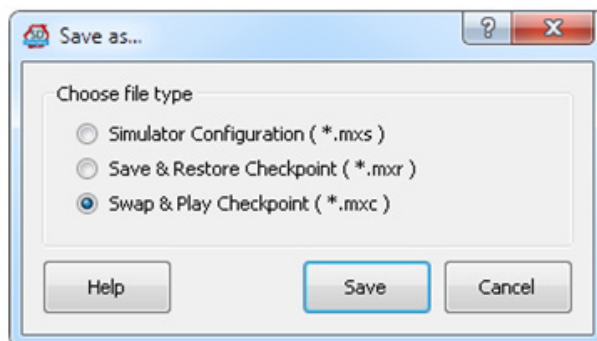

Figure 4-13 Save As dialog for Checkpoints
1. Click **Save** or select **File > Save** or **File > Save As** from the menu. In the Save as... dialog (Figure 4-13), select "Swap & Play Checkpoint (\*.mxc)".